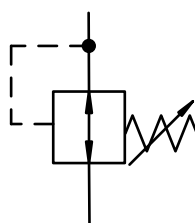

FIG 6.
- C. The symbol for a 3 way pressure reducing valve is shown in Fig 6.